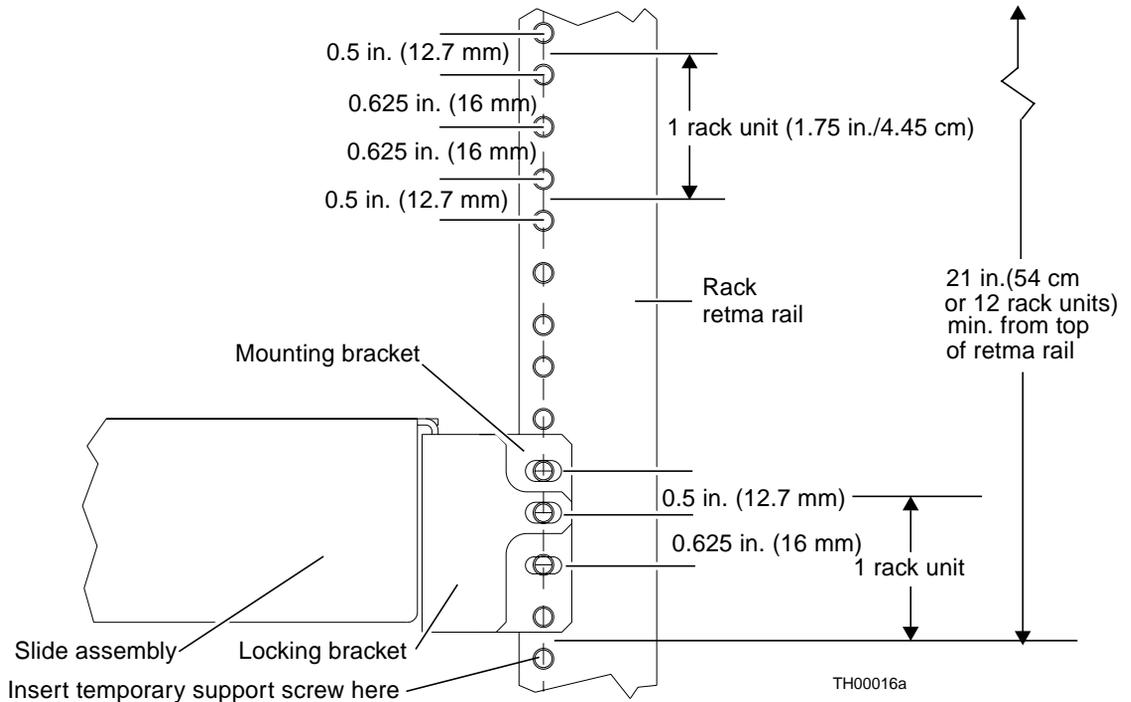

FIGURE 2-4 Positioning the Slide Assembly
1. Using FIGURE 2-4 as a guide, locate the desired mounting position for the library.